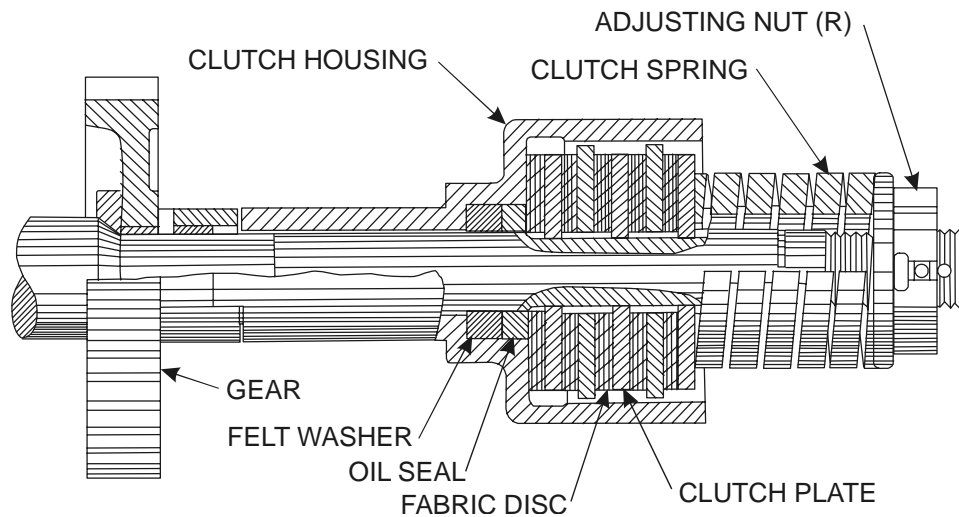
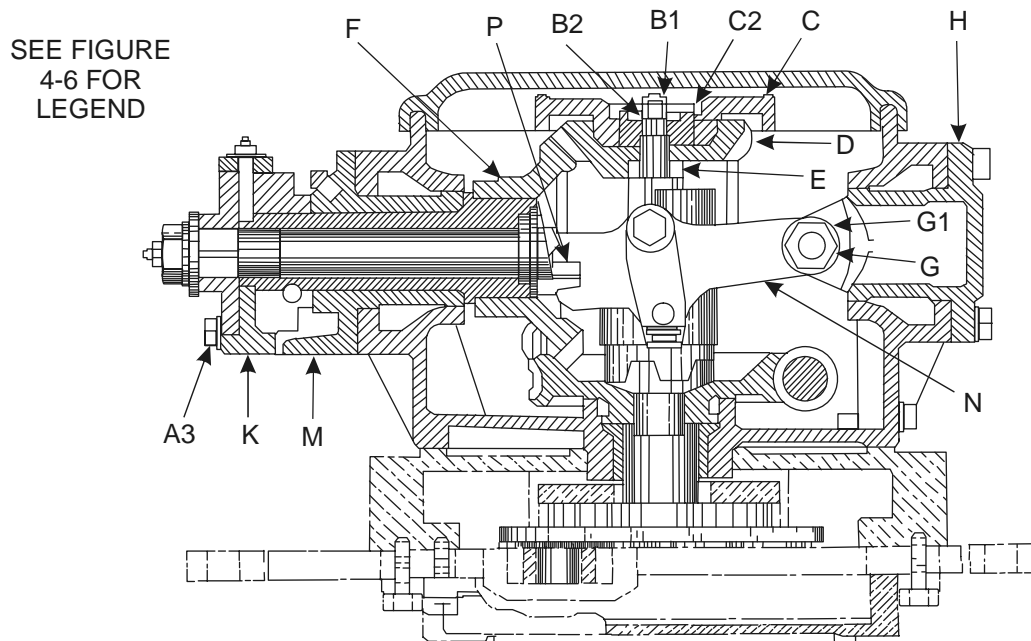
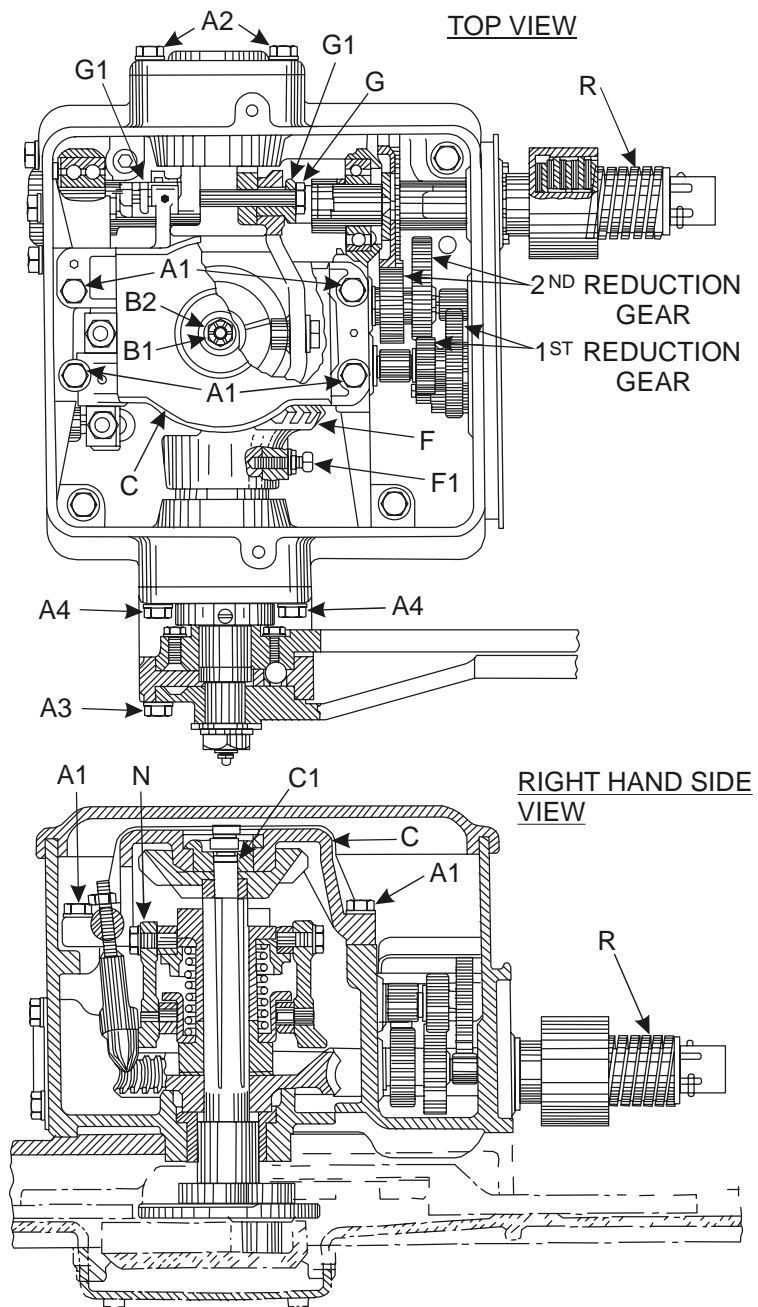

Figure 4-4. Friction Clutch Assembly
Figure 4-5. Sectional View of M-23 Gearbox – From Motor End (Right-Hand Assembly)
Figure 4-6. Sectional View of Gearbox Looking from Motor End
4.8.1.1. Dismantling (Refer to Figure 4-4, Figure 4-5, and Figure 4-6)
- Place the hand-throw lever in the Normal position and the selector lever in the Motor position. The machine must be in its full stroke position. Insert a 1/2" drive into the adjusting nut on the friction clutch assembly (R) and turn it to drive the mechanism to its complete full stop (Figure 4-4).
3. Remove the four 1/2 -13 bolts (A1) and lock washers securing the top bearing (C). (One of these bolts will be 3/4" longer than the others.)
FOR FIGS. 4-5 & 4-6
This relation can be varied by adjusting the eccentric bushings (G1). As shown in Figure 4-5 and Figure 4-6, the selector clutch yoke has one end supported on and driven by the finger on the selector lever shaft, and its other end pivots on the eccentric bushings that are fixed by G. When this bolt is loosened, the eccentric bushings may be rotated to raise or lower the center line for the pivot holes in the yoke arms, affecting the elevation of the yoke rollers.